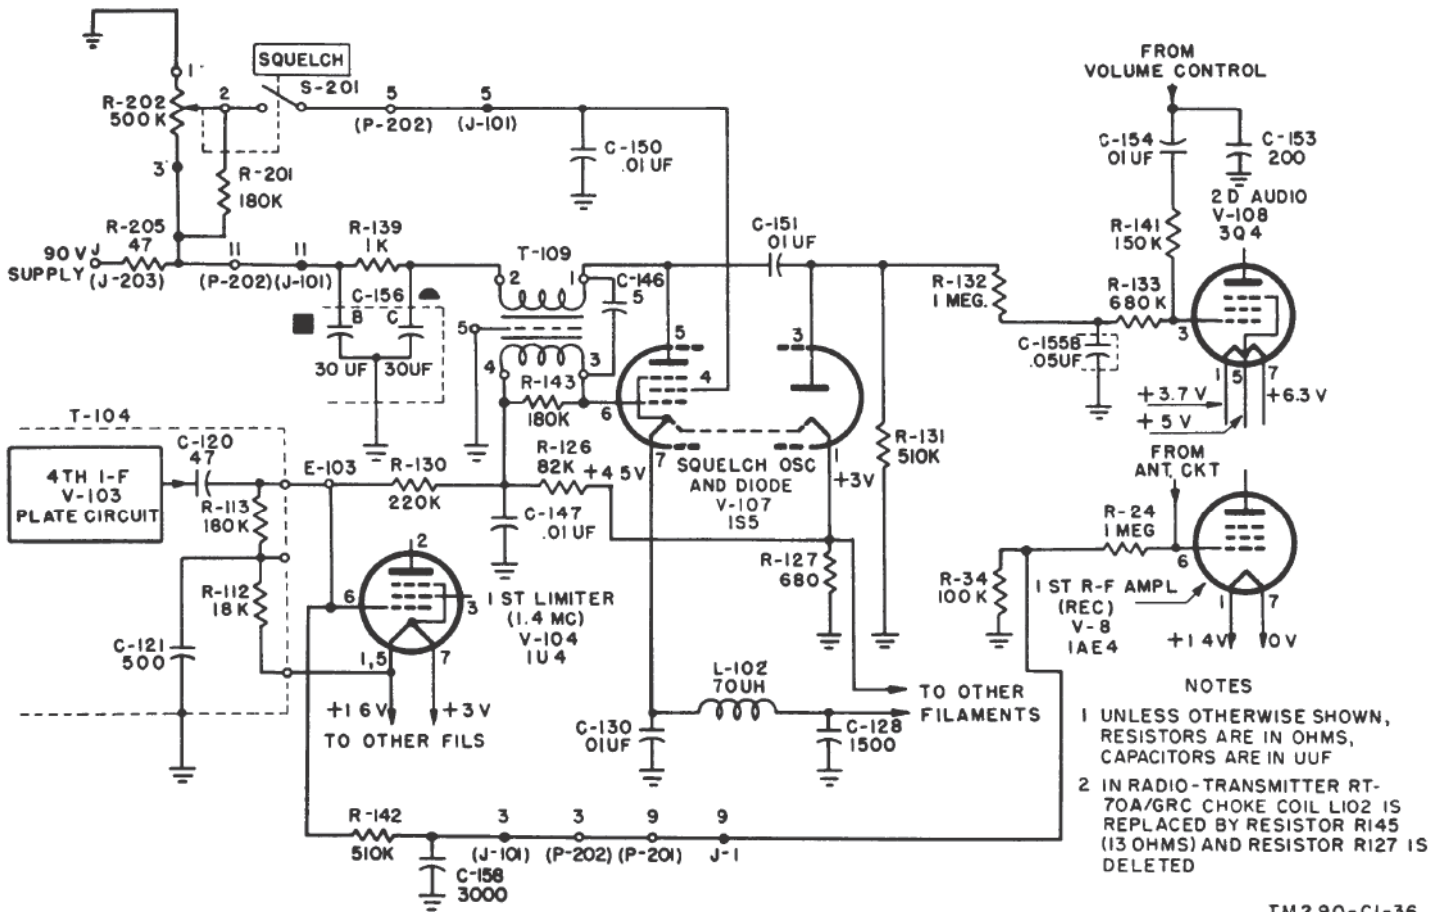

Figure 26. Squelch circuit, functional diagram.
35. Squelch Circuit V107 (fig. 26)